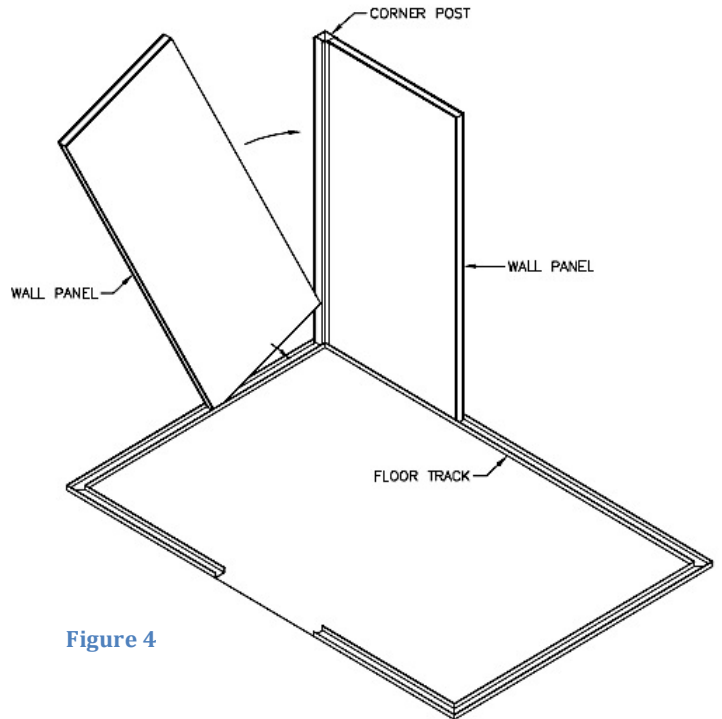

Figure 4
Step 1: Begin wall installation by inserting a corner post into the floor track shown in **Figure 4** below. We recommend you begin at a corner and work around your building in order to finish at the door opening.
Step 2: Install the two adjacent panels into the floor track to ease the installation of the wall panels. First, place a bottom corner of the panel into the floor track. Next, slide the other bottom corner into the wall stud or corner post approximately 12" to 18" above the floor. As you push down and forward on the panel it will slide into the floor track and the corner post or wire stud simultaneously with a 3/4" panel engagement into corner post or wire stud. (See Figure 4)